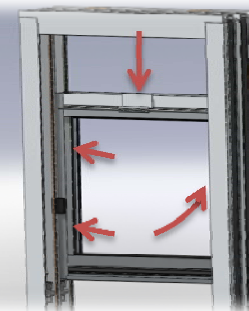
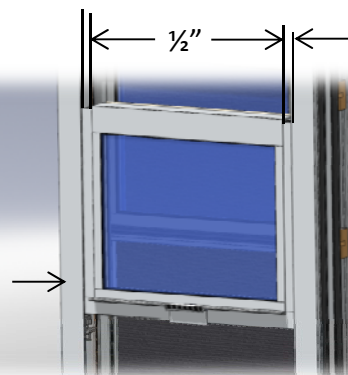
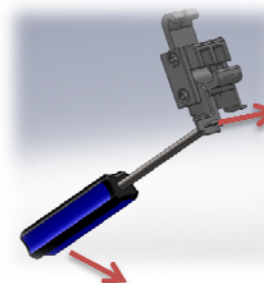
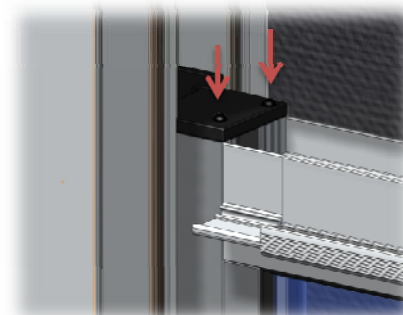

Fig. A-7
Fig. A-8
Fig. A-9
FIG A-10
4. Next install Upper Sash. (FIG A-7) Slide past dust block, insert into frame and rock into place. Center Sash in frame (1/2" engagement) and slide downward to pick up carrier. (FIG A-8) With screw driver lock in clips on carrier to secure sash. (FIG A-9) Fasten Sash Guides on top of each jamb. (FIG A-10)
5. Lastly install Lower Sash. Follow same process as step 4. Fasten Sash Guides. (FIG A-10)